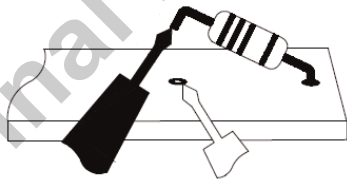

Figure 5.1 Disconnected component
Current is measured by disconnecting the part under test and connecting the probe leads in series with the part, see Figure 5.1.
4. Connect the probe leads in series with the part in accordance with Figure 5.1.